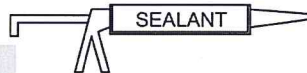

FIG. 1
# OVERVIEW (FIG. 1)
- a) The point of the base mount with the adjustable connector should face the front of the vehicle (Fig. 1).